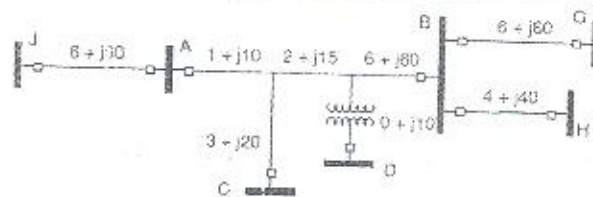

Fig. 3
3) Consider the multi-terminal line in the system shown in Fig. 3. Each of the buses C, D, G, H and J has a source of power behind it. For a three-phase fault on bus B, the contributions from each of the sources are as follows: